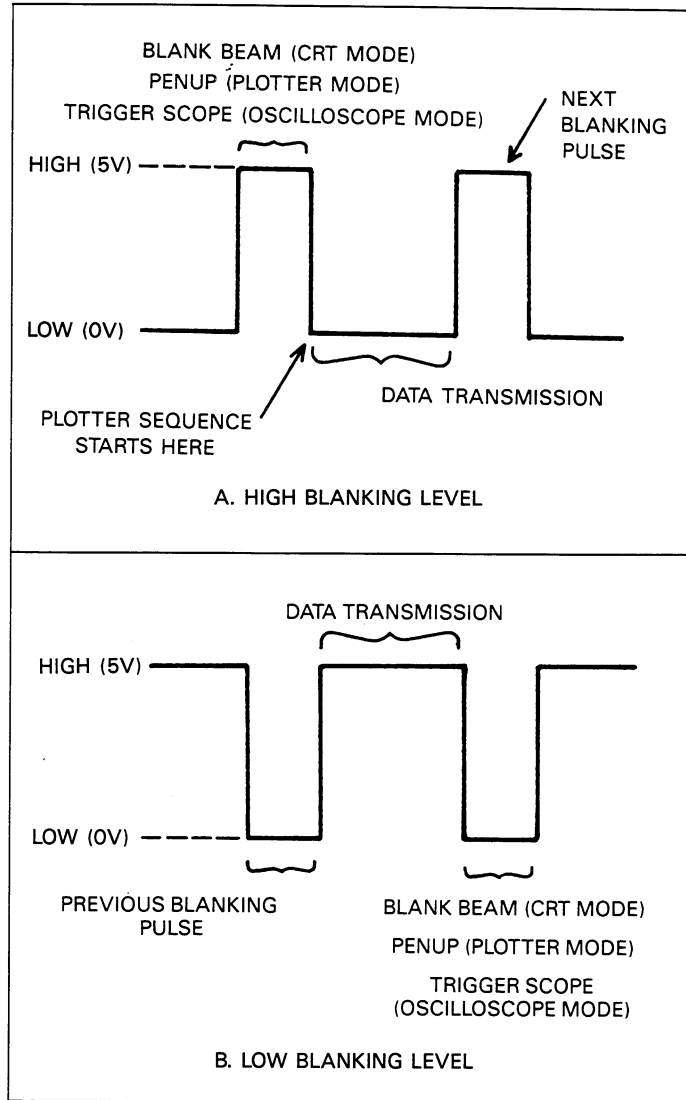

Figure 3-13. Output Blanking Levels
Figure 3-13 demonstrates the operation of the blanking pulse. In (A) a HIGH level is assumed, while (B) shows a blanking pulse with a LOW level. Note that one pulse is essentially the inverted form of the other.